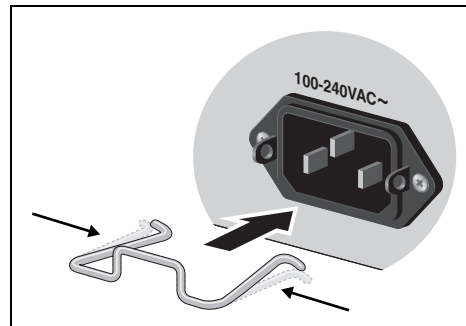

Figure 18. Inserting the Retaining Clip into the Retaining Bracket
2. Install the clip on the AC power connector on the power supply module. With the 'u' of the clip facing down, press the sides of the clip toward the center and insert the short ends into the holes in the retaining bracket, as shown in Figure 18.